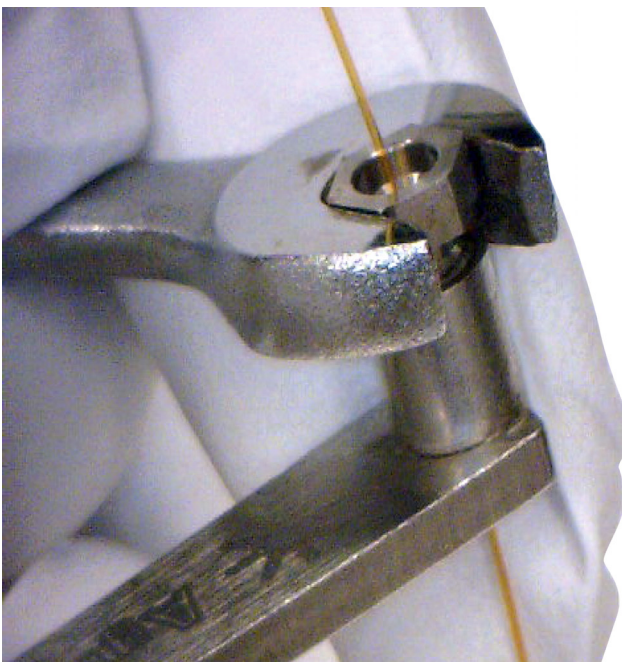

Figure 5 Tightening the internal nut
- c** Check if the ferrule is gripping the column. If yes, stop. If not, continue to tighten the internal nut in small 5- to 15-degree increments. Check after each increment to see if the ferrule is gripping the column. Stop as soon as gripping occurs (see Figure 5 on page 28).